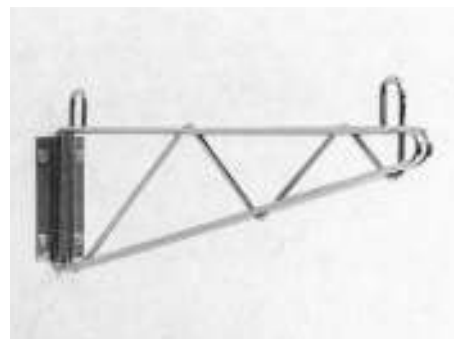
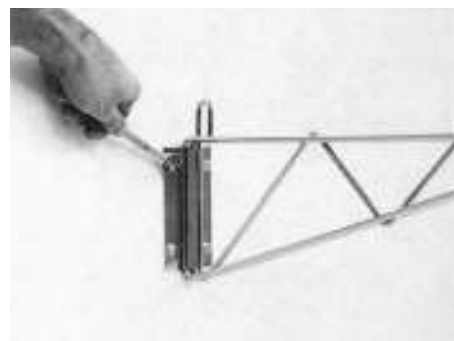

Fig. 2
Fig. 3
5. Mount the shelf support to the previously prepared mounting holes, using the proper hardware (see Note 1) (Fig. 2 and Fig. 3). Partially tighten each of the four fasteners for each mounting plate before fully tightening any one fastener. There will be an approximate  $\frac{1}{16}$ " gap between the mounting plate and the wall. The mounting plate is intentionally undersized to create this gap which provides a gripping action between the wires to the shelf support, the mounting plate and the wall.